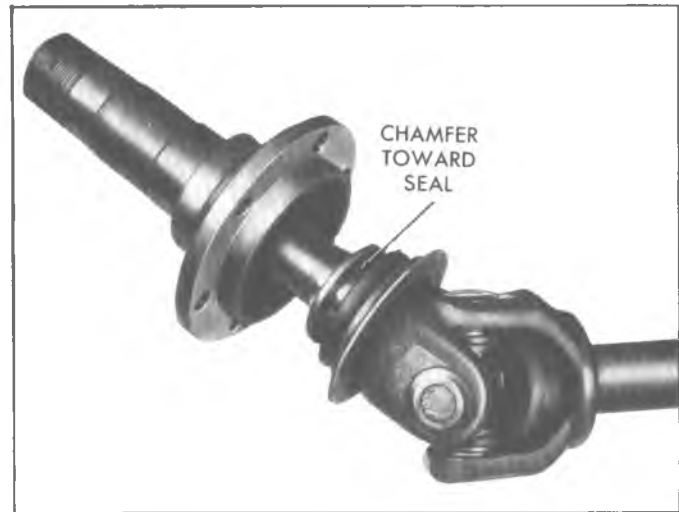

Fig. 69—Installing Spindle and Thrust Washer
- c. Relubricate the needle bearing and the spindle end (Fig. 69) with a high melting point type wheel bearing grease.
10. Install the bronze thrust washer over the axle shaft with the chamfer toward the slinger and install the spindle as shown in Figure 69.